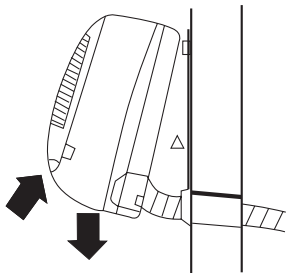

Fig. 9.9 Assembling the indoor unit.
- Tilt the lower part of the indoor unit forwards and insert an auxiliary tool (e.g. a piece of wood) between the mounting plate and the unit (see Figure 9.9) to allow access to the unit connections.